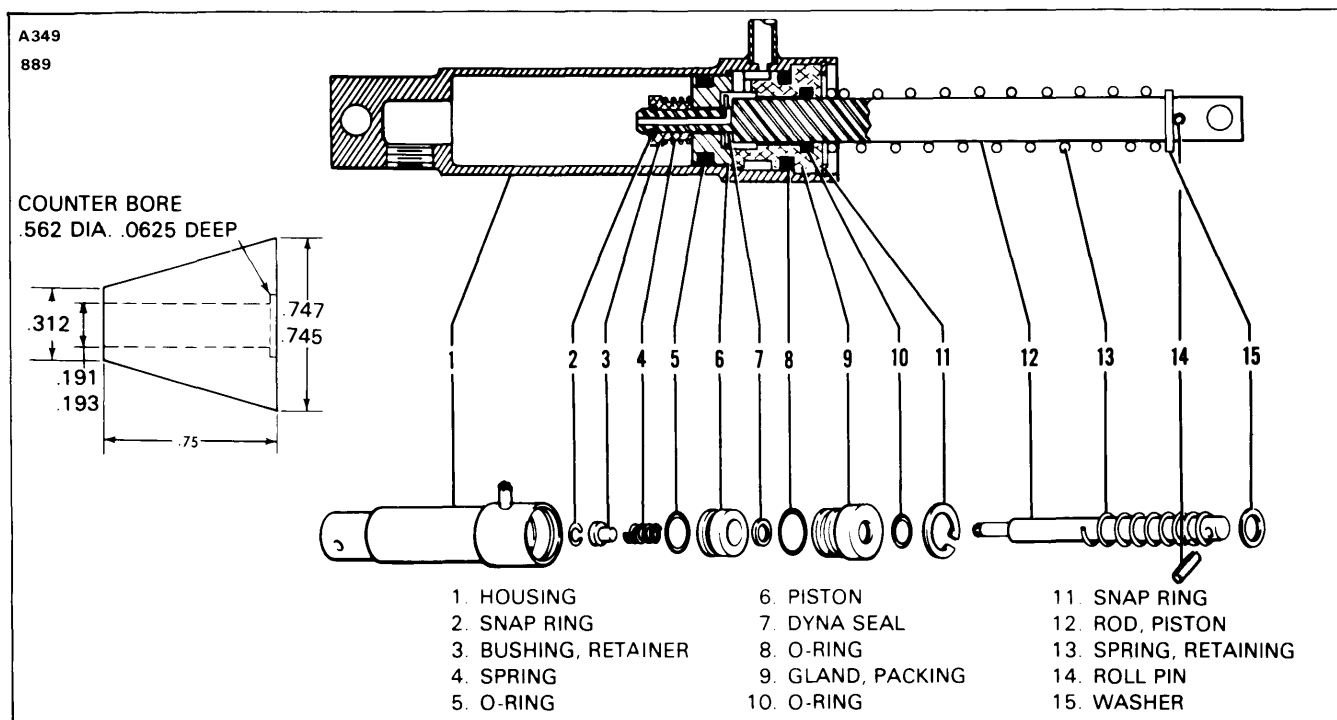

Figure 7A-20. Brake Master Cylinder (Hand/Parking Brake)
7A-65. ASSEMBLY OF BRAKE MASTER CYLINDER. (Refer to Figure 7A-20.)
- a. Install new "O" rings on the inside and outside of the packing gland (9) and on the outside of the piston (6). (When installing teflon "O" ring (5) on piston, it is recommended that it be installed with the use of a cone placed against the piston. The cone may be constructed of plastic or metal with dimensions shown in Figure 7A-20.)
- b. To assemble the piston rod assembly, install on the rod (12), in order, the return spring retainer washer (15), return spring (13), packing gland (9) with "O" rings, seal (10), piston (6) with "O" ring, spring (4) and retainer bushing (3). Secure these pieces with the small ring (2) on the end of the rod.
7A-66. INSTALLATION OF BRAKE MASTER CYLINDER. (Refer to Figure 7A-19.)